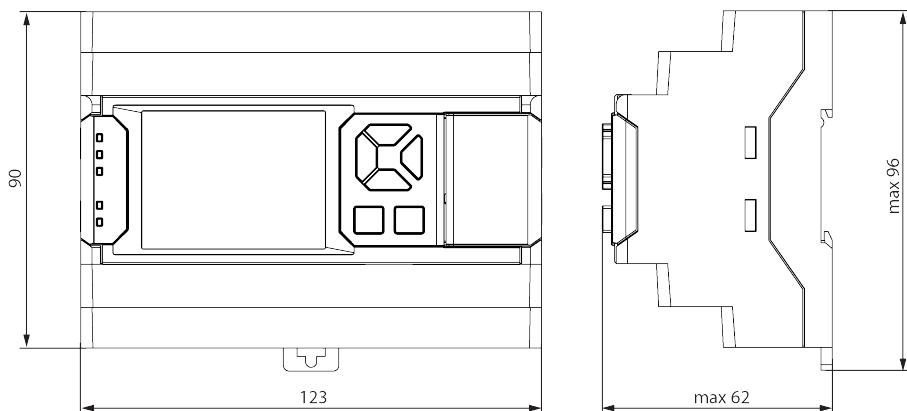

Fig. 5.1 Dimensions
1. Prepare the place on the DIN rail where the device should be mounted. Take into account the device overall dimensions (see Fig. 5.1).